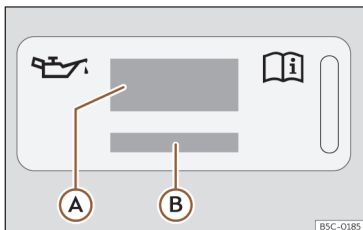
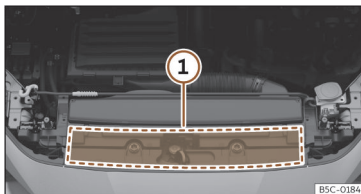

Fig. 229 In the engine compartment: engine oil label
Fig. 230 In the engine compartment: area where the engine oil label is located
Key to the >>> **Fig. 229**:
If the engine oil has to be topped up, use one of the oils shown on the label >>> **Fig. 229**. The label with the prescribed standard is located at the front of the engine compartment >>> **Fig. 230** (1). If you use the recommended engine oil, you can top up the oil as often as necessary.
- If the label showing the engine oil specifications is missing >>> Fig. 229, please contact a specialist workshop.